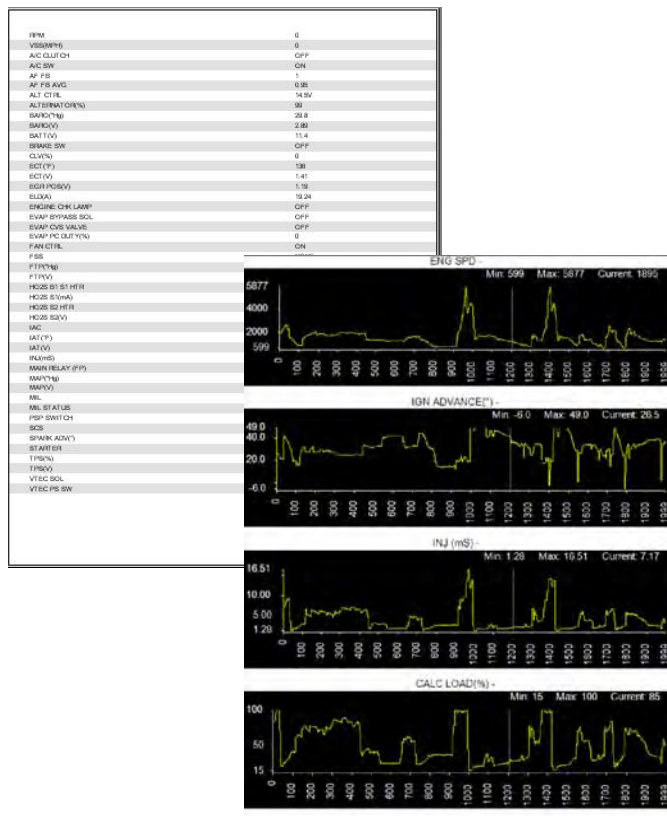

Figure 12-19 Print preview window (text list and graphs examples)
- b. If Print Preview was selected, a preview window opens. Select the printer icon (Figure 12-19) to send the file to the printer.